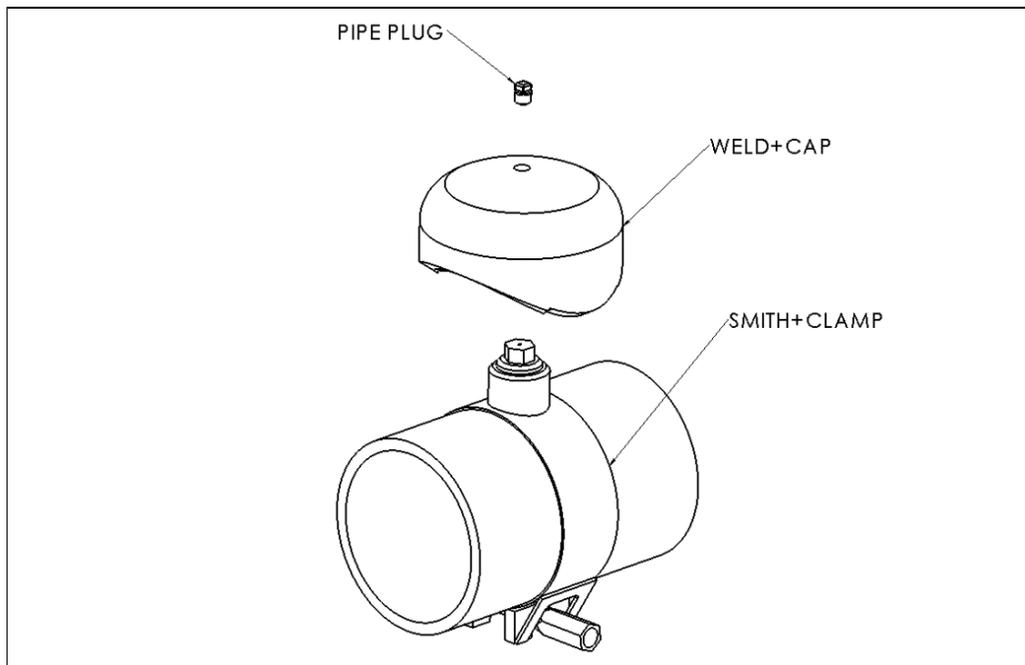

Figure 1
2. Remove the pipe plug from the PLIDCO Weld+Cap before welding. This eliminates pressure build-up inside the Weld+Cap while welding. (See Figure 1)